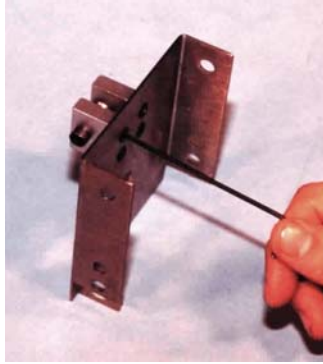

Figure 9.3- Pulley wheel assembled to internal plate assembly
1. Bolt the Pulley Wheel Assembly (T1UAM210, T1UAM211, T1UAM212) to the forward facing surface of the Internal Mounting Plate (T1UAM252) using four #6-32 x 3/8" FHSCS {5/64}, as shown in **Figure 9.3**. (Note: The forward facing surface is on the same side, opposite the flanges.)